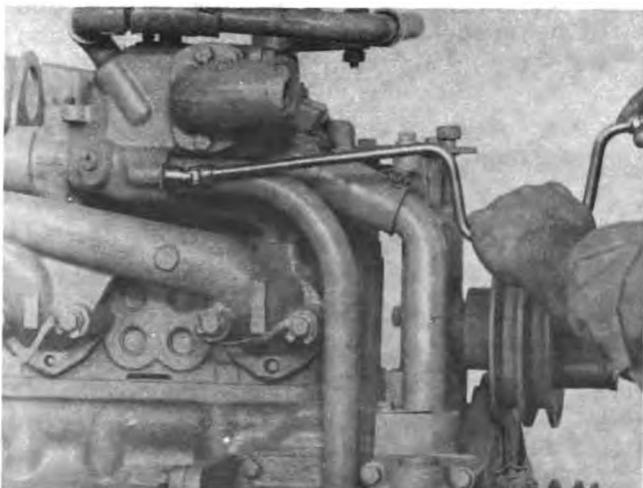

Fig. 0-14. Remove The Capscrew That Holds The Transfer Tube.
5. Remove the capscrew, lockwasher and flat-washer that hold the water transfer tube to the housing for the thermostat, Fig. 0-14. Remove the water transfer tube and discard the O-rings.